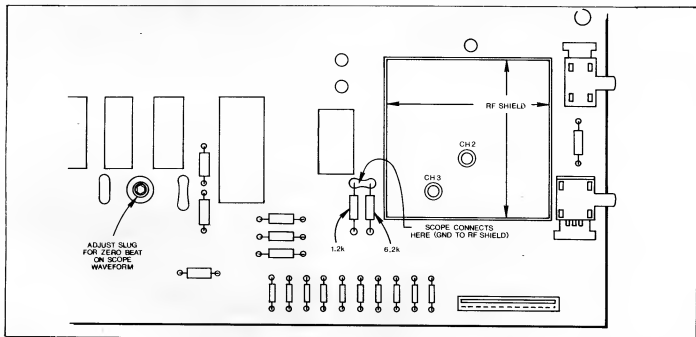

Figure 34. Scope Connections for Adjusting Clock Frequency
1. Connect scope probe to the junction of two resistors as shown in Fig. 34. Connect scope ground to RF shield, cartridge post or to other suitable board ground.